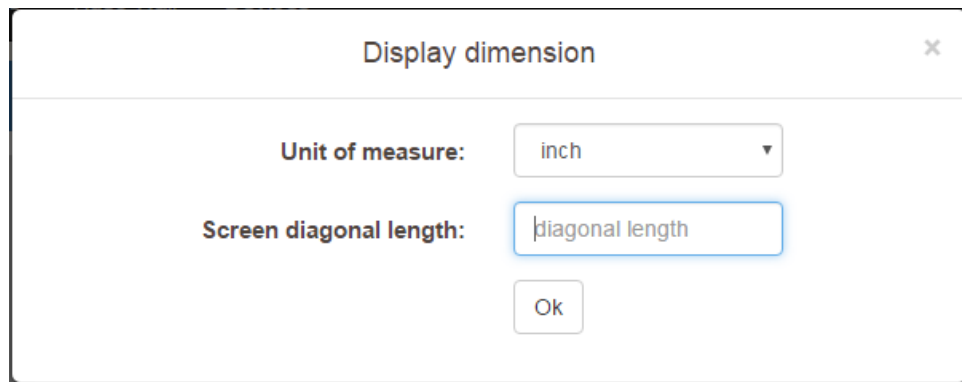

Figure 100: Video Wall Tab – Newly Created 2x2 Video Wall
- b. Once dragged into the display pane, the user is asked for display dimensions (Figure 100). Fill-in the requested information.
Note that **Unit**, **screen width**, and **screen height** values are derived from the information provided by the user when first creating the video wall (Figure 100). Also, **Bezel top**, **bezel bottom**, **bezel left**, and **bezel right** are all set to 0.1 inch by default, but these values may be changed.